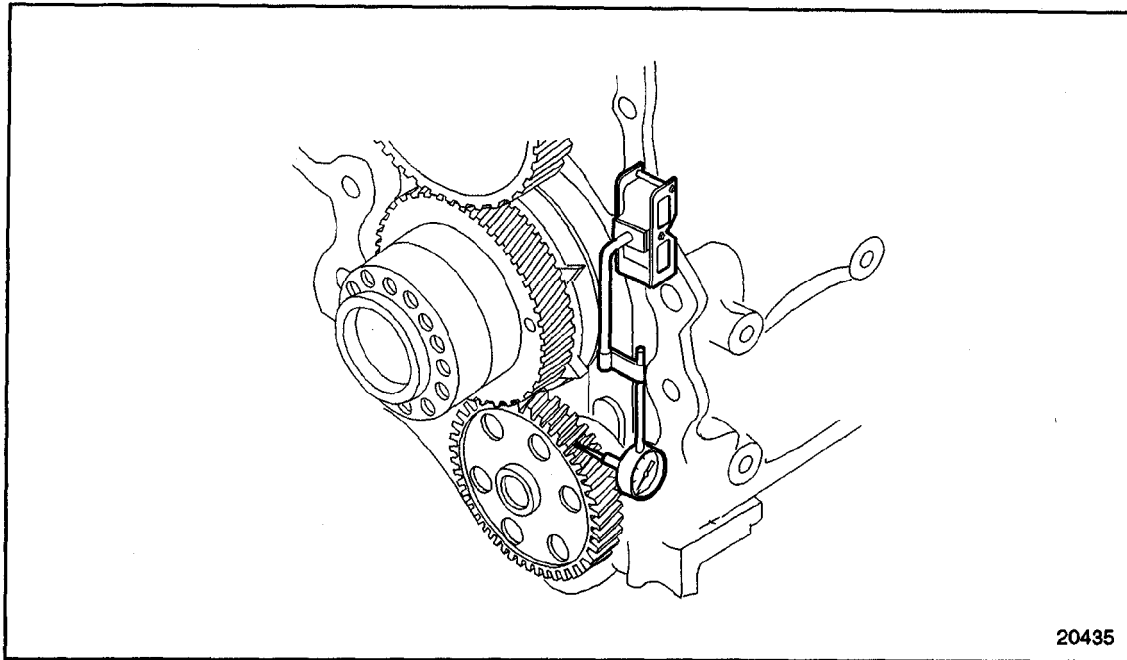

Figure 3-10 Oil Pump Drive Gear-to-Crankshaft Gear Lash Measurement
3. Fasten a dial indicator and magnetic base to the cylinder block so that the indicator tip rests on a tooth of the oil pump drive gear. See Figure 3-10.